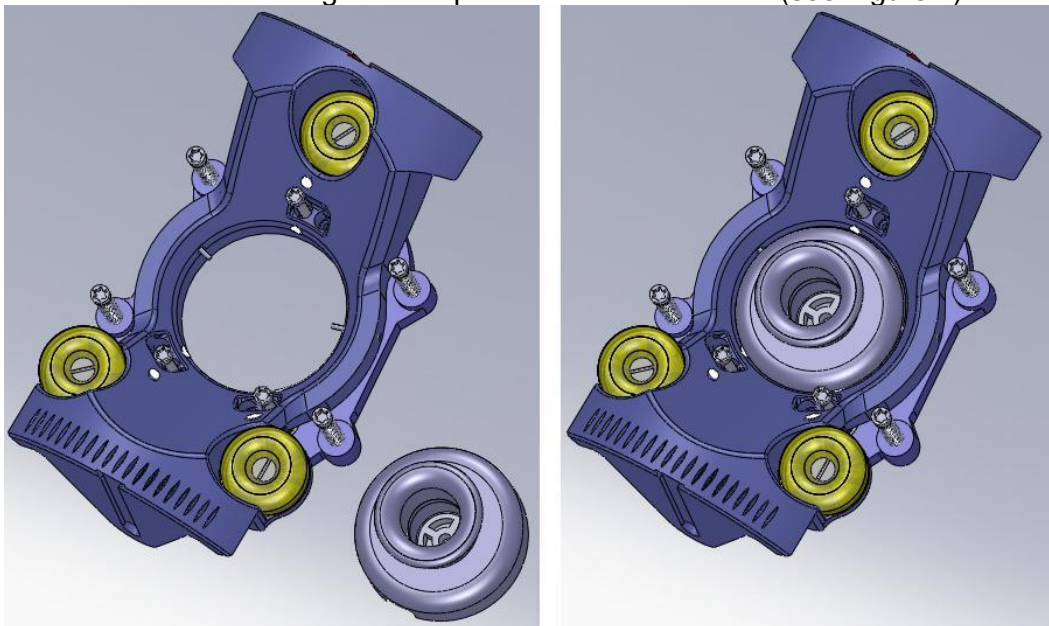

Figure 7
3. Insert the Centering Tool into the Scalp Mount Base so that it is held in place by the small silicone “fingers” that protrude inside the Base (see Figure 7).